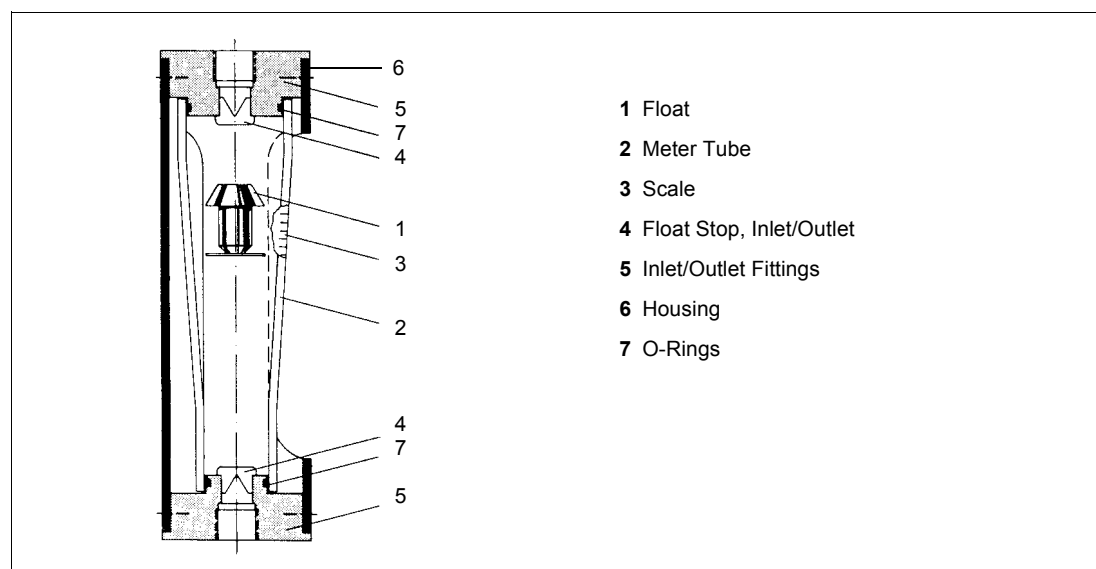

Fig. 2-1: Basic Construction, Glass Tube Flowmeter
In its simplest construction, a Variable Area Flowmeter consists of the measurement elements (see Fig. 2-1). Float (1), meter tube (2), flowrate scale (3), fittings (5), flanged or threaded, for mounting in the pipeline and O-Rings (7) to provide the seals.